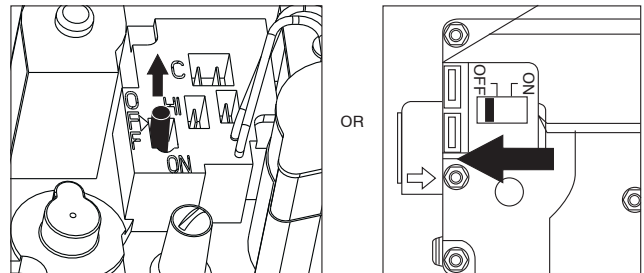

Fig. 8 – Control Switch to OFF
5. Turn the control switch on the gas control to the OFF position and wait 5 minutes. See Fig. 8. Then smell for gas, including near the floor. If you smell gas, STOP! Follow “B” on furnace label. If you don’t smell gas, go to next step.
- Turn the switch on the gas control to the OFF position. (See Fig. 8.)